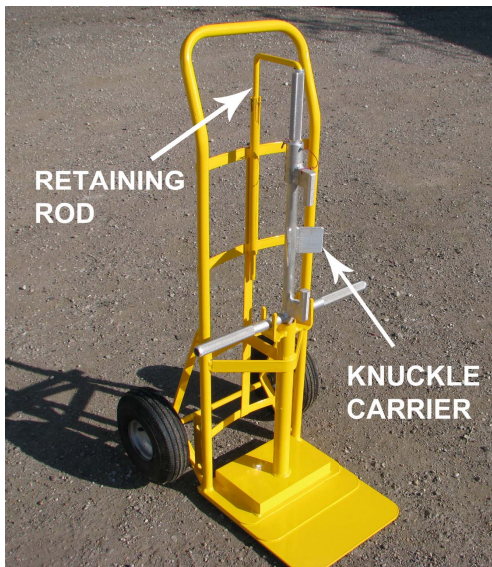

FIGURE 1
1. Inspect the Knuckle Cart for defects prior to use. Make sure the Knuckle Carrier is in place in the holder. Check the Knuckle Carrier retaining rod for proper operation. The cart tires must be inflated to the proper pressure (Figure 1).
2. Inspect the Knuckle Carrier for defects. Check for broken welds or bent tubing. The handle retainer pin must be in place and working properly (Figure 1).
3. Move the cart to the freight car or locomotive requiring knuckle replacement. Lift the carrier retaining rod and rotate it 90 degrees left or right. Lower the retaining rod down into one of the two storage retaining slot positions (Figure 1).